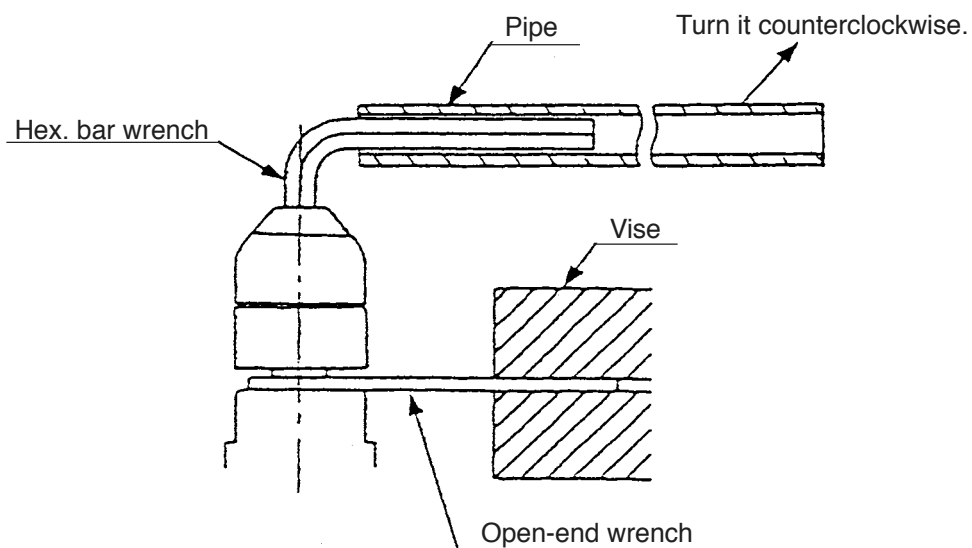

Fig. 9
As illustrated in Fig. 9, support the Inner Cover [18] <18> with a tubular jig, and push down on the top of the pinion of the Armature [33] <32>.
- b. Hold the Spindle [4] <4> with the open-end wrench secured to the vise as shown in Fig. 9.
Mount the pipe to the hex. bar wrench. Turn the hex. bar wrench counterclockwise to loosen the drill chuck. (Fig. 9)